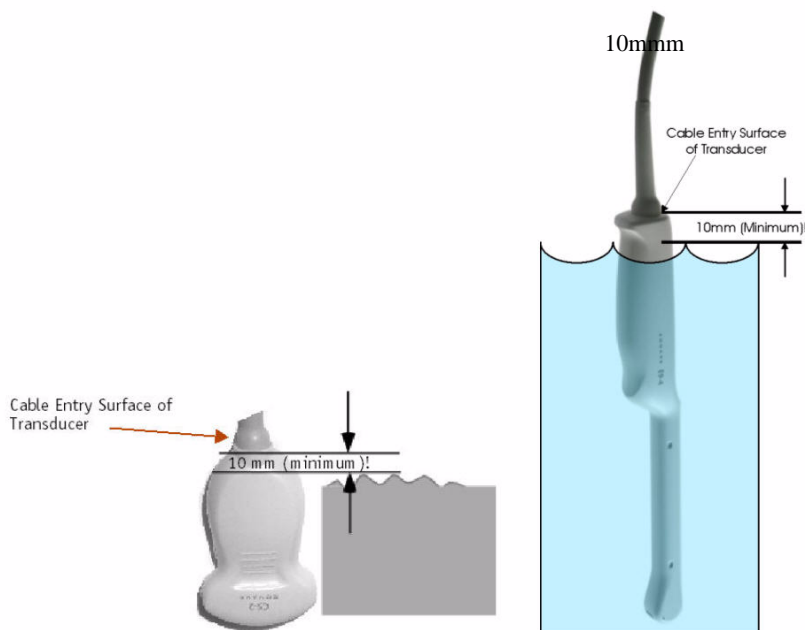

Figure 59: Transducer immersion limits
6. Immerse the transducer into the disinfecting solution, ensuring it is not immersed below the depth indicated in the figure (Refer to **Figure 59: Transducer immersion limits**)